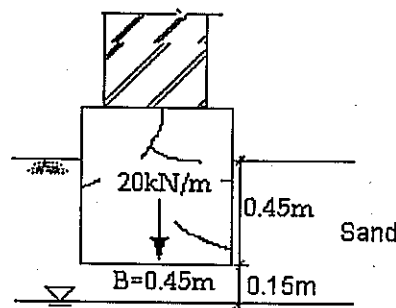

Figure Q6(a)
- a) Figure Q6(a) shows a strip footing founded on a sandy soil. Discuss the effect of water table i) on Ultimate Bearing Capacity of the soil and ii) on allowable bearing capacity of the soil to satisfy settlement requirements. (5 points)